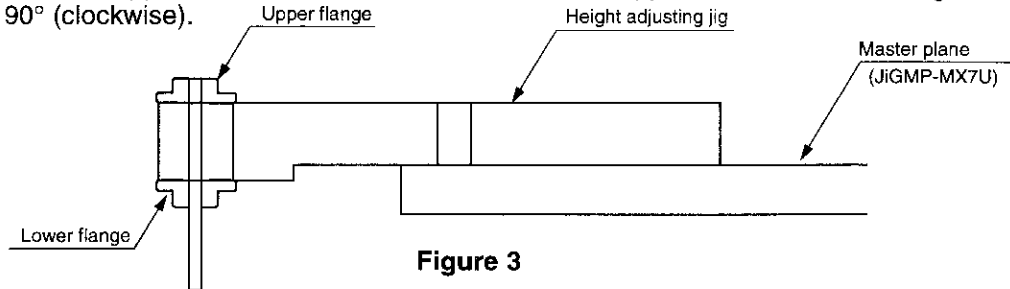
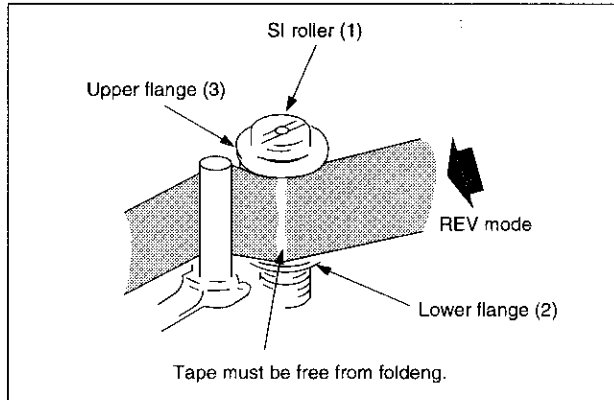

Figure 3
Figure 4
2. Ascertain that the tape is not folded on the lower flange (2) of Si roller (1). (Figure 4)
**S/B** mode**Figure 2**(3). **STOP** mode (See Figure 3)
**STOP** mode**Figure 3**(4). **PB** mode (See Figure 4)
**PB** mode**Figure 4**